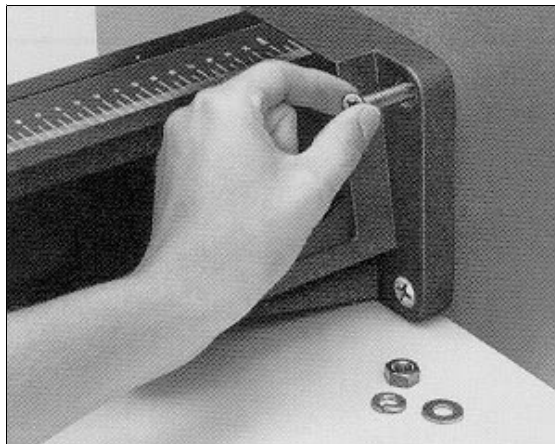

Figure 2-3. Inserting Bolts in Standard Base
2. Hold the baseboard in a vertical position and the column in a horizontal position (figure 2-3). The scale on the column should face toward the center of the baseboard.